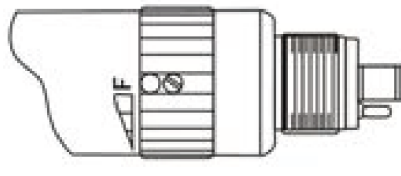

Fig. 2
- **FORWARD:** turn the rotating ring to “F” (Fig. 2).